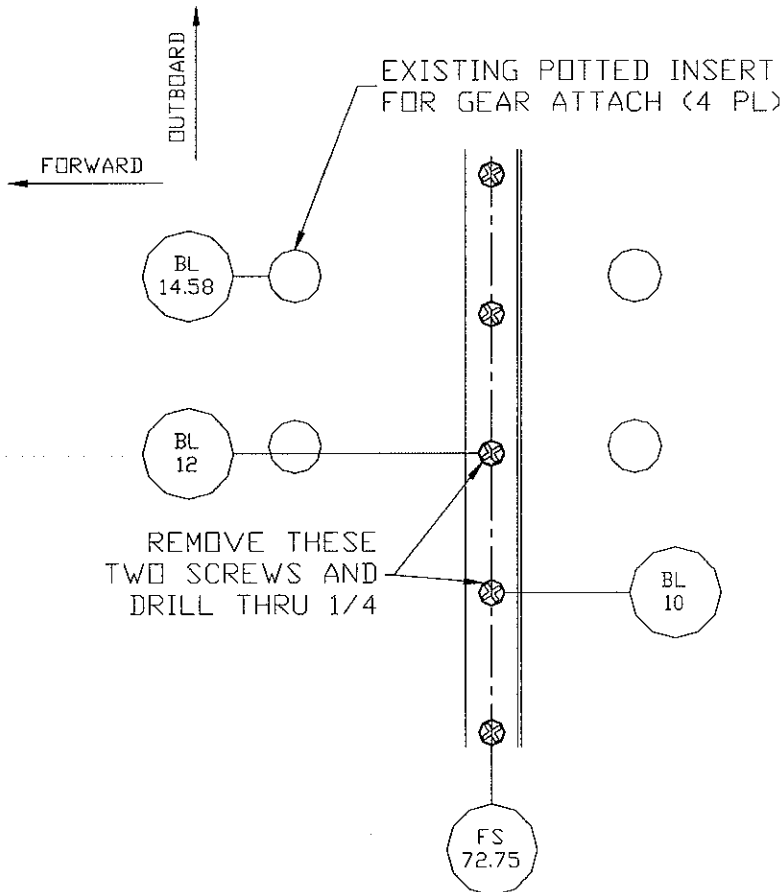

Figure 1-2 Forward Aircraft Modification
- n. **(Bell Gear)** Install one Clevis Bolt (P/N 308-302 028-001) from the bottom and secure with Nut (P/N 111045 MS21044C4) and Washer (P/N 1120100 AN960C-416). The Clevis bolt aligns with the lug fore and aft. 50 to 70 in.-lb. (Figure 1-1, 1-2) **(Aeronautical Accessories Gear)** Install one bolt (P/N 110210) from the bottom through the outboard hole. Secure with nut (P/N 111045) and washer (112100).(Figures 1-2, 1-5)